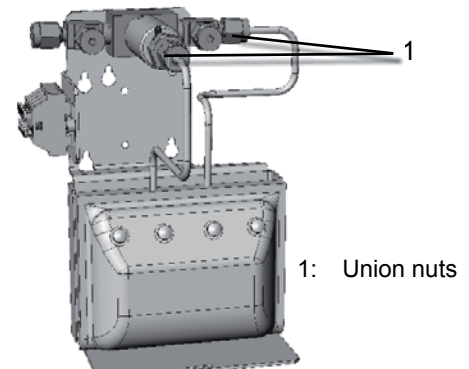

Fig. 4-9: Jacket in converter assembly
11. Connect the open gas lines to the fittings of the solenoid valve (Fig. 4-9). Carefully fix the union nuts.